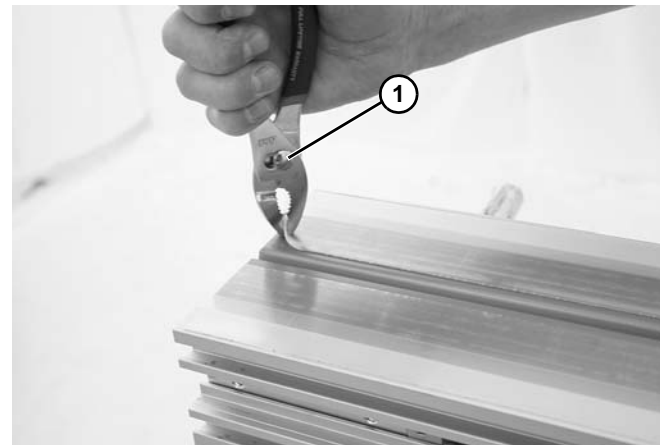

Figure 47
3. Remove old wear strip with a pliers (Figure 47, item 1).